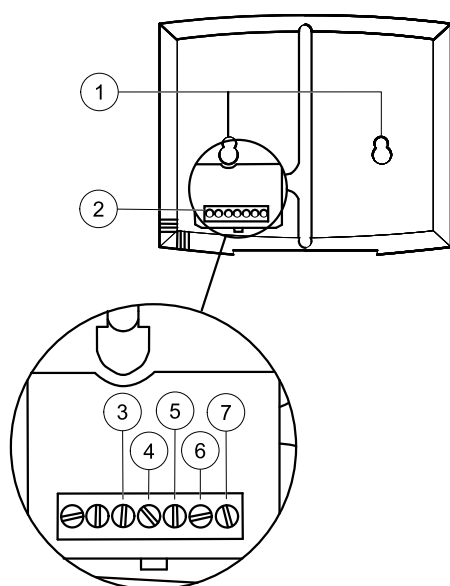

Fig. 15 Control panel wire connections
If needed, drill two holes in the wall to hang the control panel (center to center: 60 mm) (pos.1, figure 15).